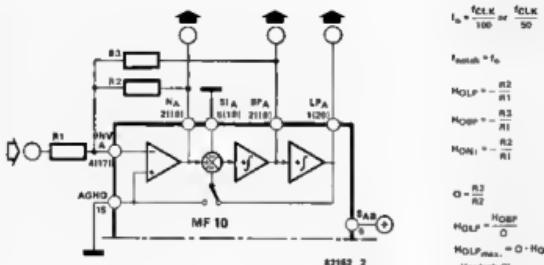

Figure 2. One half of the MF 10 as a 2nd order filter with notch, band and lowpass outputs. With the values shown the circuit performs as per the data sheet.
- Figure 2 shows a mode of operation ideally suited to the actual specifications as laid down in the data sheet.
Figure 2 shows a 2nd order inverting filter with bandpass, lowpass and notch functions. Pay particular attention to the formulae shown for the circuit dynamics, (H_{OLP}). These expressions are very important as they determine the swing at each output as a function of the desired Q factor of the 2nd order function. In other words the output voltage level is a function of the Q factor selected. When considering high Q factors, inadequate attenuation of the input results in overdrive distortion (clipping, overdriving the IC circuit).